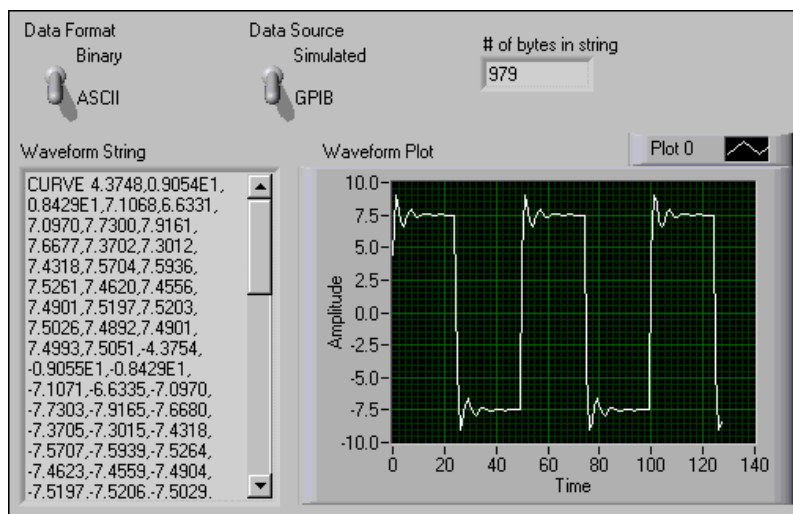

Figure 11.28
1. Open the Waveform Example VI located in the C:\Exercises\LabVIEW Basics I directory. The front panel shown in Figure 11.28 is already built.